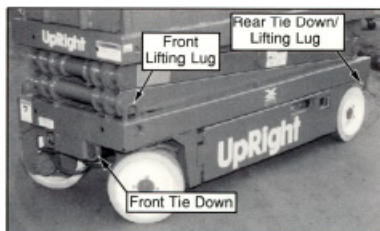

Figure 5: Transporting Work Platform
Forklift from rear of Chassis using frame sockets or from the side by lifting under the Chassis Modules (Figure 5).
1. Secure straps to Chassis Lifting Lugs only (Figure 5).
2. Secure the work platform to the transport vehicle with chains or straps of adequate load capacity attached to the chassis tie down lugs (Figure 5).